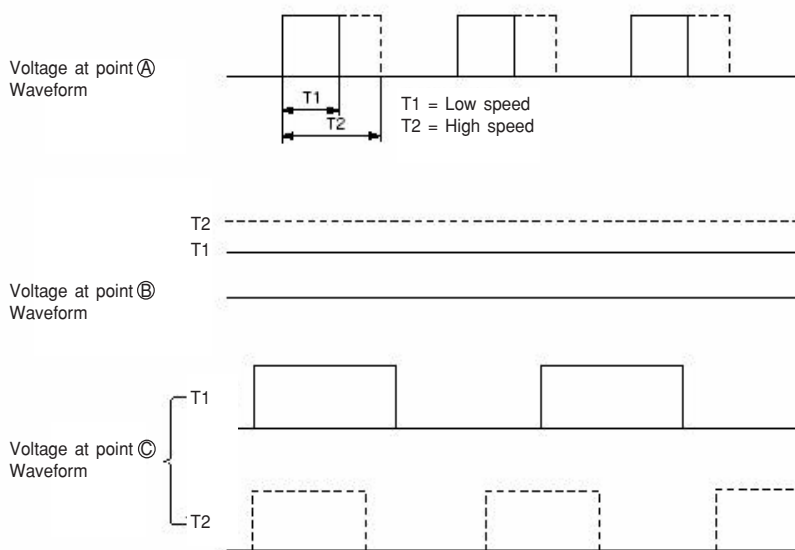

Fig. 7-2
- For the point A, 15.7 kHz PWM pulse will be output from the pin (24) on the micro computer as shown in Fig. 7-2. The pulse range will vary with different command speed.